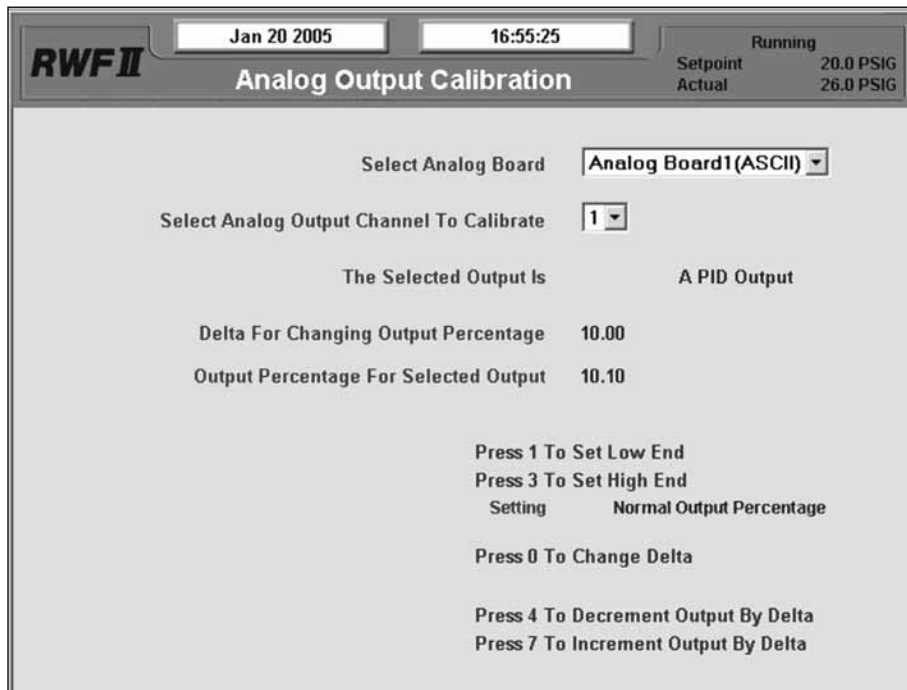

Figure 21
- Set operating session to Session 2 and go to the screen shown in Figure 21 by pressing **[Menu] > [Calibration] > [Analog Outputs] > [Output Calibration]**.